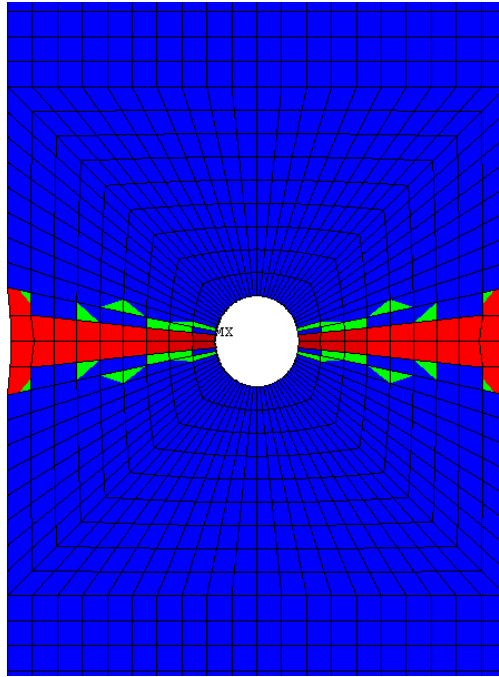

Figure 15. PLESOL contour plot of ply 2 at the end of the step.
- Enter **LAYER, 2** in the command prompt to view results in ply 2 (a 0° ply). Note that it may be necessary to click **Plot** → **Replot** to refresh the Graphics Window. The contour plot of SDV1 for ply 2 at the end of the load step is shown in Figure 15.